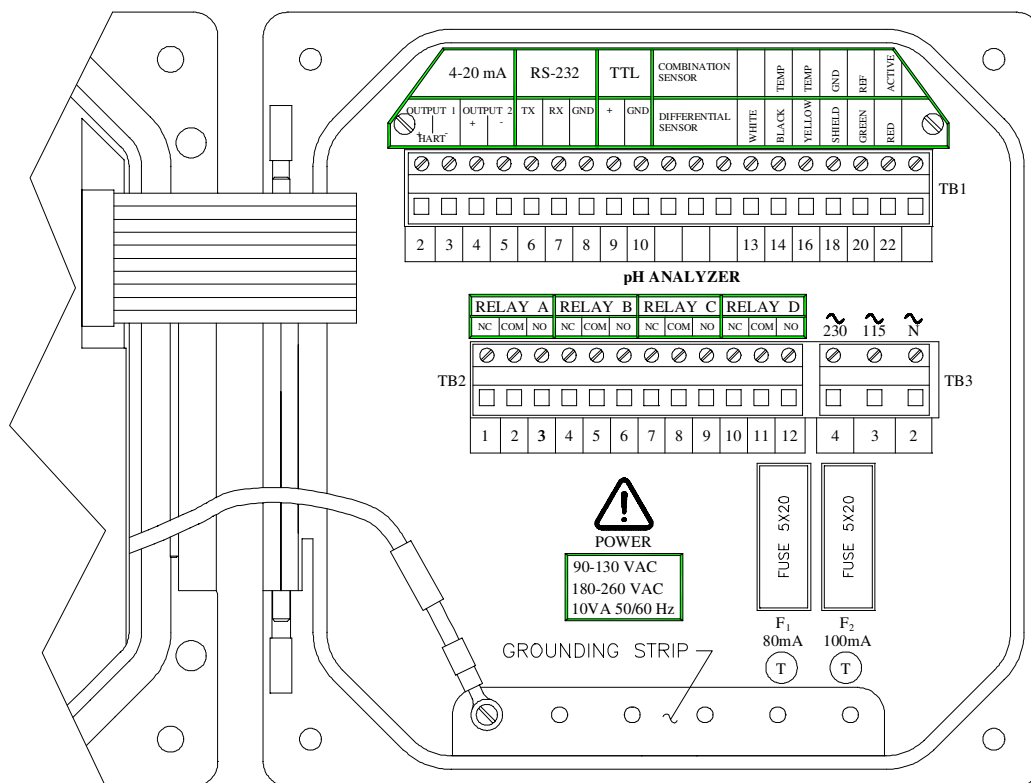

FIGURE 2-3 Terminal Designations for Analyzers with “B” Prefix Serial Number
To access terminals for electrical connections, open the left-hinged enclosure door by unscrewing the four fasteners. Figure 2-3 or 2-4 shows the terminal arrangement and their designations.
- The grounding strip at bottom of case (5 open holes, Fig. 2-3) for analyzers with “B” prefix serial number.